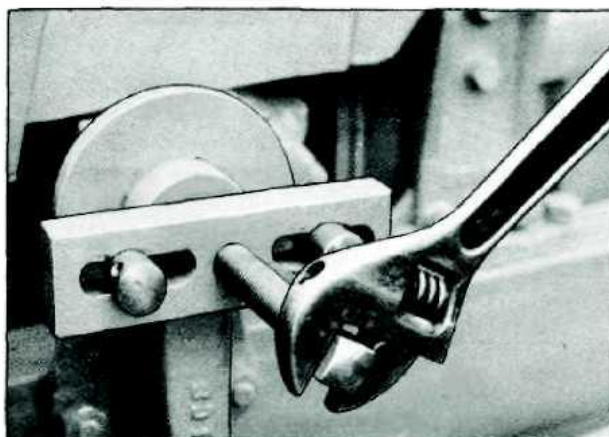

Fig. A.4 — Removing Pitman Arm
1. Remove the nut and spring washer from the pitman shaft and, with the aid of a suitable puller, remove the pitman arm (Fig. A.4).
1. Remove the splitpin, nut and washer from the pitman shaft and, using a suitable puller, remove the pitman arm (see Fig. A.4).